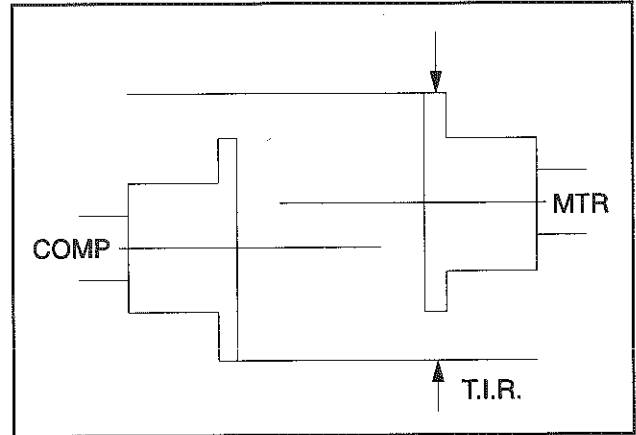
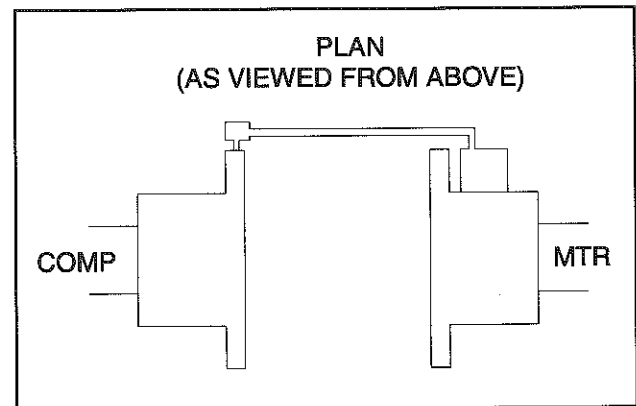

FIG. 4 - PARALLEL MISALIGNMENT
FIG. 5 - DIAL INDICATOR ATTACHED (AT 9 O'CLOCK)
6. To check parallel alignment, as shown in Fig. 4, reposition dial indicator so the stem is in contact with the rim of the compressor hub, as shown in Fig. 5.
Set indicator at zero and rotate both coupling hubs together 180° (9 o'clock position), as shown in Fig. 5.